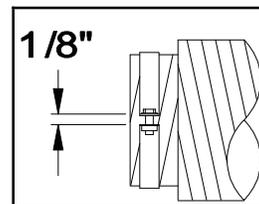

Figure 24
8. Tighten the inner pipe clamp bolts until both clamp halves are within $\frac{1}{8}$ " of each other at each end (Figure 24).